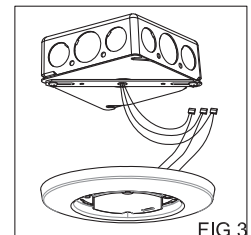

FIG.3
5. Connect the wires: Black to Black, White to White, Green to Green. Secure the connection with Wire Nuts. Tuck all the wires into the Outlet box. (FIG.3)